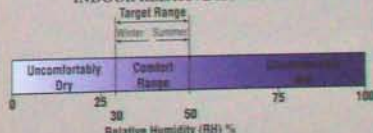

Figure 7
When outdoor temperature and absolute humidity are high (in other words, the air is moist), we want to keep our homes at a lower relative humidity (RH) to maintain comfort—typically below 50 per cent RH (see figure 7). But leaks in the building envelope allow water vapor to enter from outside. The resulting higher RH makes occupants feel sticky and requires the air-conditioning system to work harder to remove excess moisture from the air.